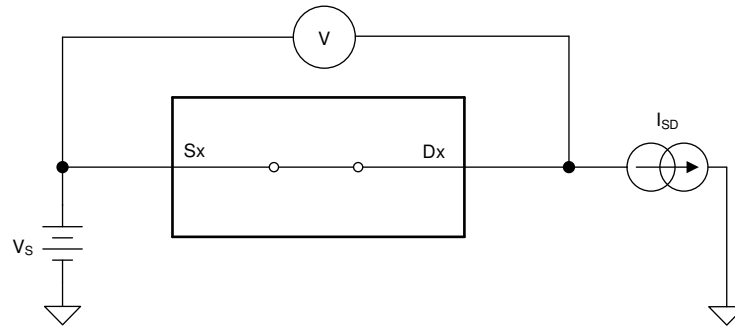

图 7-1. On-Resistance Measurement Setup
The on-resistance of a device is the ohmic resistance between the source (Sx) and drain (Dx) pins of the device. The on-resistance varies with input voltage and supply voltage. The symbol  $R_{ON}$  is used to denote on-resistance. The measurement setup used to measure  $R_{ON}$  is shown in 图 7-1. Voltage (V) and current ( $I_{SD}$ ) are measured using this setup, and  $R_{ON}$  is computed as shown below with  $R_{ON} = V / I_{SD}$ :